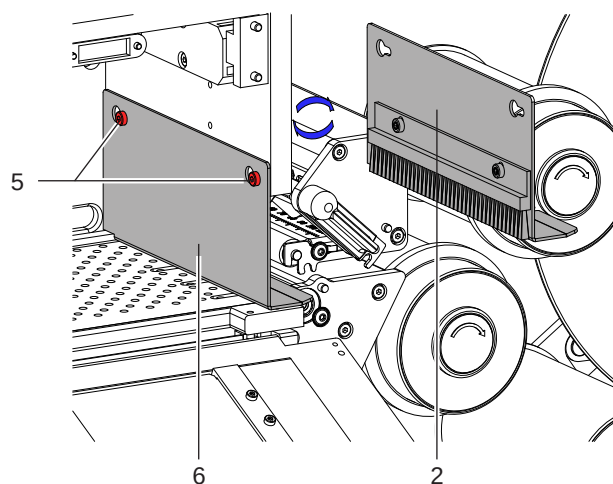

Fig.35 Change guiding
5. Loosen the screw (9) on the roller holder (8).
6. Slide the screw (9) to the side and unlock the pressure roller (7).
7. Tilt the pressure roller (7) down slightly and remove.
8. Insert the pressure roller (1) from the conversion kit in the position of the removed pressure roller (7).
9. Slide the screw (9) with the latch in the direction of the laser chamber.
10. Tighten the screw (9) to secure the pressure roller (1).
11. Install the Roller Tag guide (2) ▷ Figure 35
12. Slide the pendulum roller (4) from the conversion kit onto the roller (10) mounted on the pendulum.
13. Fasten the deflection roller (3) to the outlet of the laser chamber using the associated screws (3a).